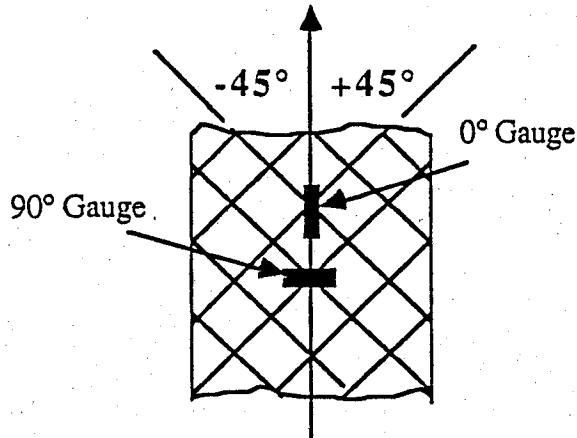

Figure 1(b)
- 1(c) A 25° specimen of unidirectional composite material is heated from room temperature to 250°C in an oven. A strain-gauge rosette, mounted at room temperature, shown in Figure 1(c) reads the following data: